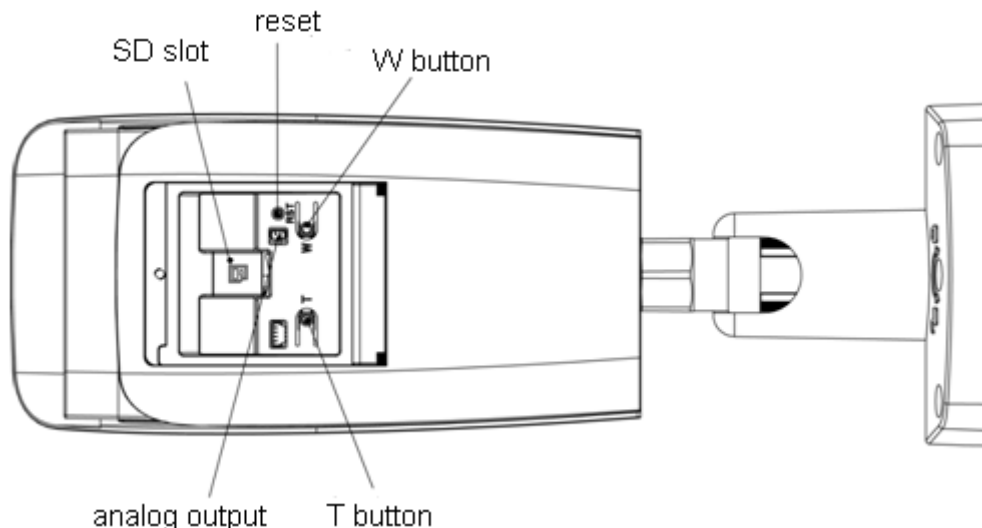

Figure 3-3
Step 2. Insert SD card into Figure 3-3.